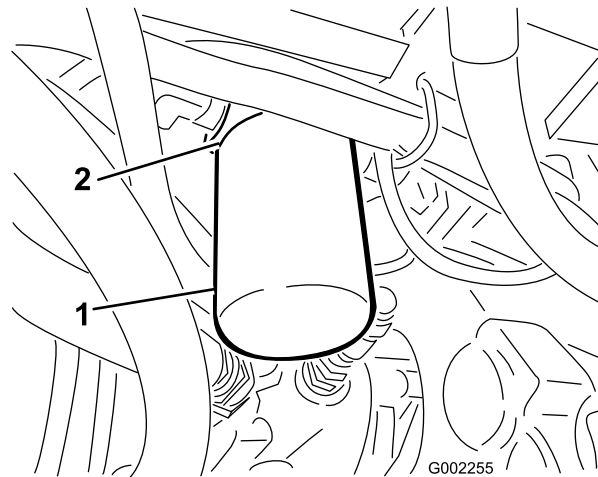

Figure 59
2. Clean the area around the filter mounting area (Figure 59).
4. Remove the filter (Figure 59).
5. Lubricate the new filter gasket (Figure 59).